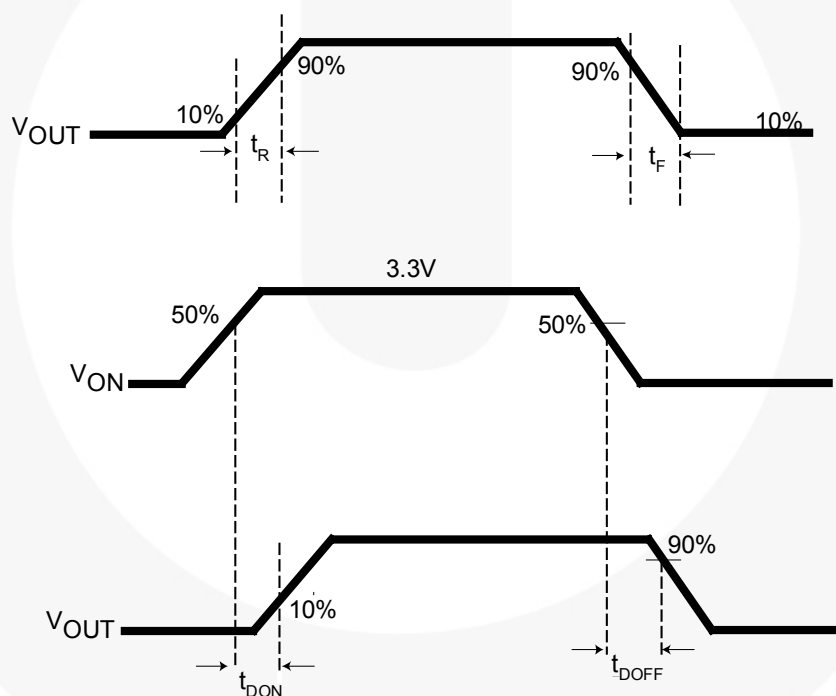

Figure 25. Timing Diagram
- $t_{DON}/t_{DOFF}/t_R/t_F$ are defined in Figure 25.